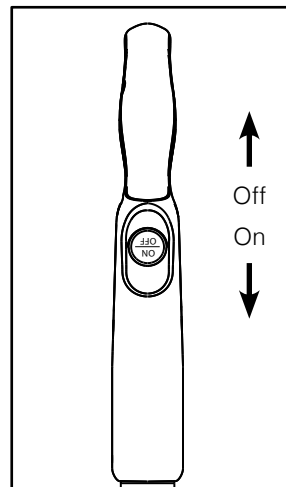

Fig. 3
- To turn the vacuum cleaner on, press the On/Off Switch located on the handle to the "On" position (Fig. 3).